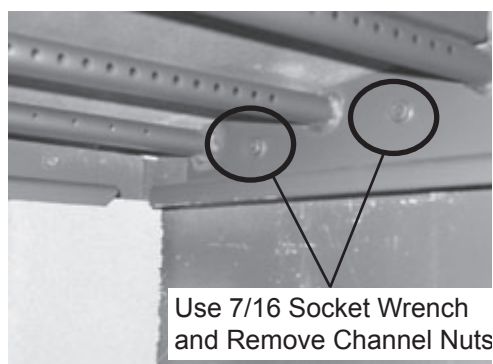

Figure 25.2
4. Locate the 2 channel nuts inside of chamber and remove using a 7/16 socket wrench. **Figure 25.2.**